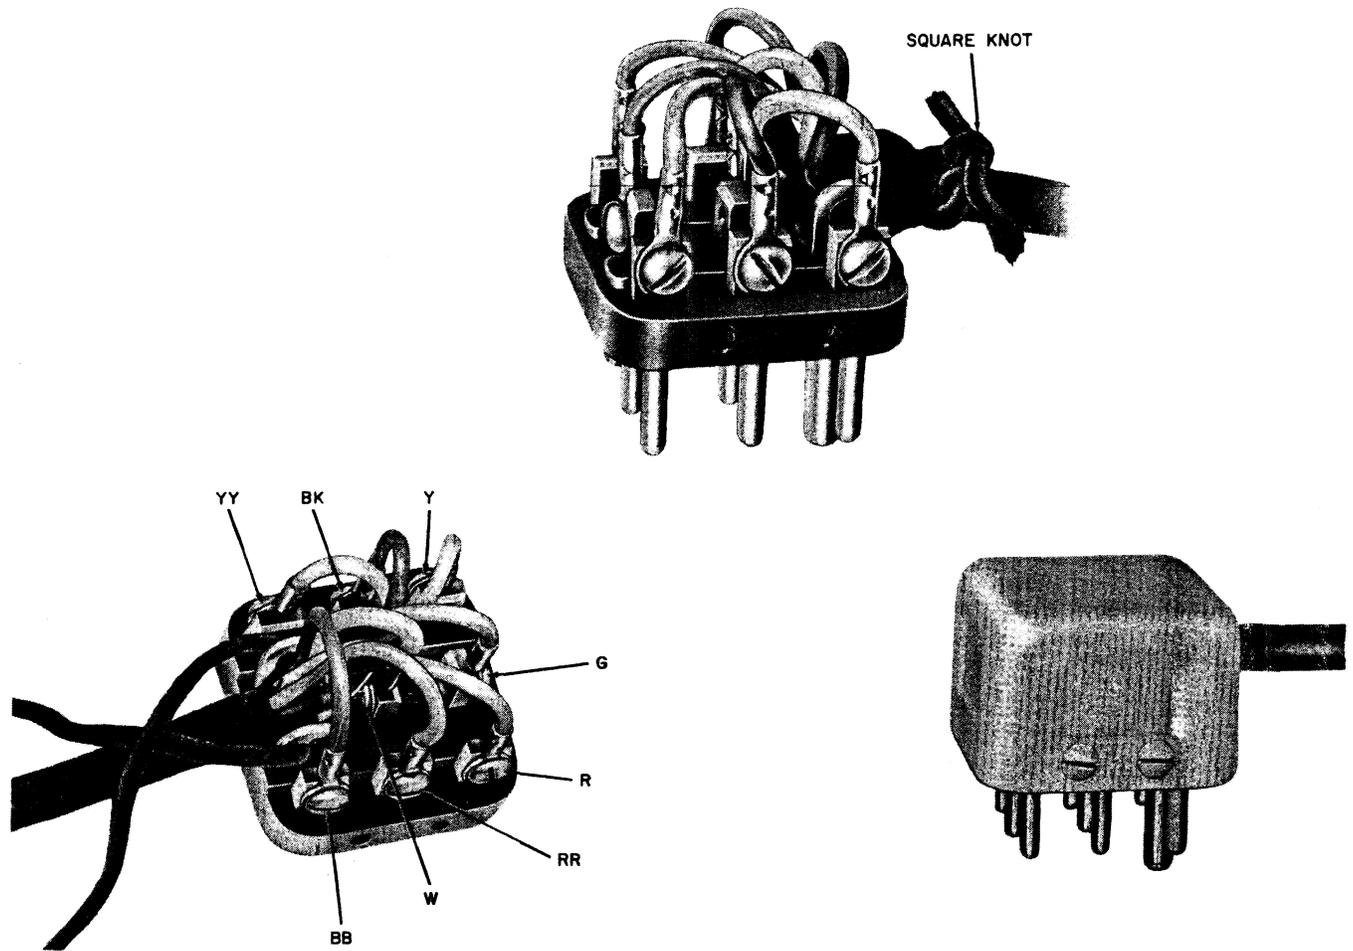

Fig. 1—274A Plug
- 2.02 The 274A plug (Fig. 1) is a two piece, 8-contact plug of molded plastic. It is intended for use with braided fabric covered mounting cords and is equipped with two eyes to which the braid is secured. It is available in color as shown in Table A.
- (1) Make connections as indicated by color designations stamped adjacent to terminals.
- (2) Connect cord spade tips as shown in Fig. 1.
- (3) Tie mounting cord securely.
- (4) Place shell on base and tighten screws.